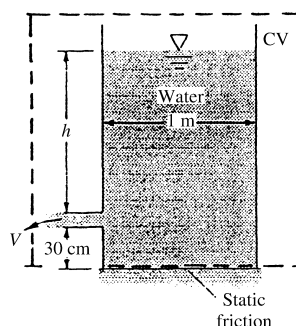

Fig. P3.81
3.81 Torricelli's idealization of efflux from a hole in the side of a tank is $V \approx \sqrt{2gh}$, as shown in Fig. P3.81. The tank weighs 150 N when empty and contains water at 20°C. The tank bottom is on very smooth ice (static friction coefficient $\zeta \approx 0.01$). For what water depth h will the tank just begin to move to the right?